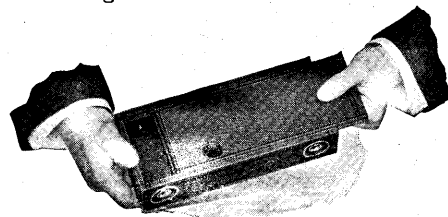

FIG. 1
1. To load the camera, take a position at a table where the daylight is somewhat subdued, and remove back of camera by pressing on concealed spring at end as shown in Fig. 1 and drawing back out.